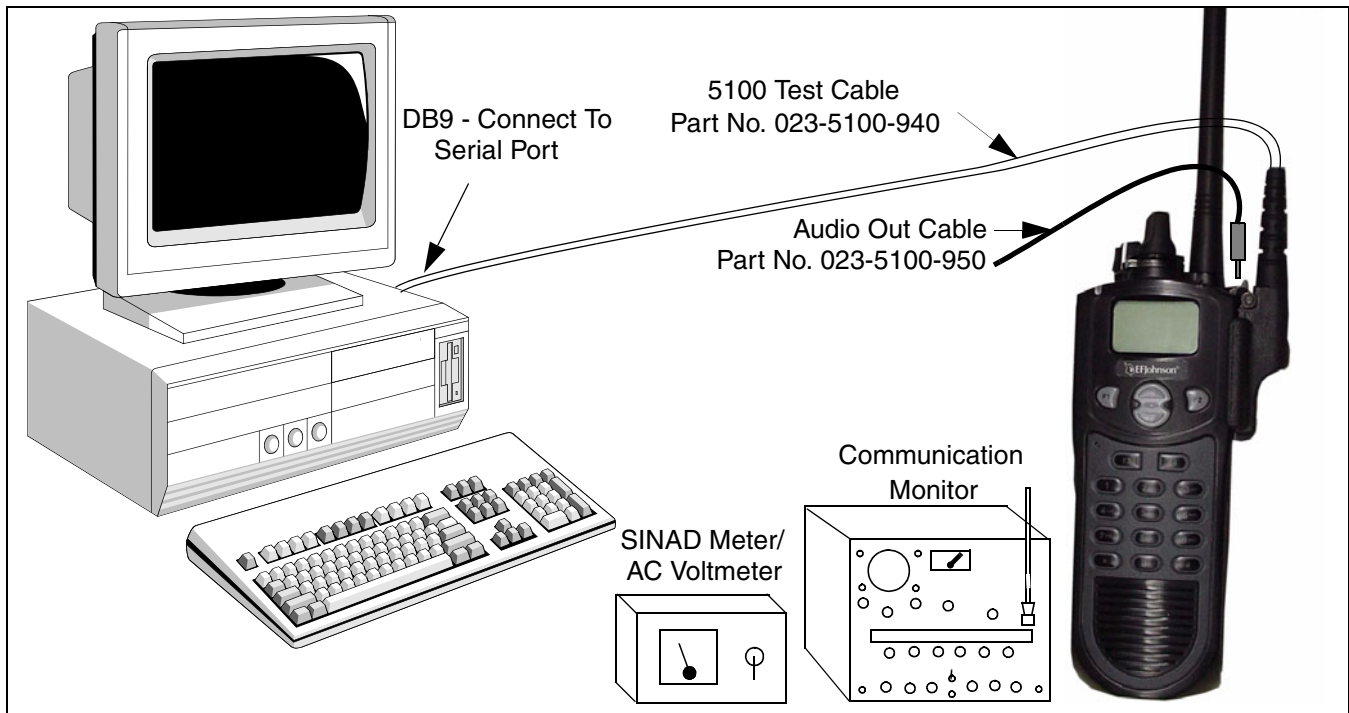

Figure 6-1 Alignment Setup
All adjustments are set digitally using the computer. Therefore, there is no need to disassemble the transceiver to access adjustment points. In addition, audio test signals are generated internally, so an audio generator is not required. The required test equipment is shown in Figure 6-1.
2. Connect the other end of the test cable to the accessory (UDC) jack of the transceiver (see Figure 6-1).
3. If the receiver squelch adjustment will be made, connect a SINAD meter to the Audio Out jack of the test cable (see Figure 6-1). This is a 2.6 mm (3/32") mono phone jack. *NOTE: The audio output signal at this jack is a single-ended speaker-microphone signal and therefore at a lower level than the differential signal fed to a speaker-microphone. Refer to "Audio Power Output and Distortion" in Section 6.6.2 for more information.*